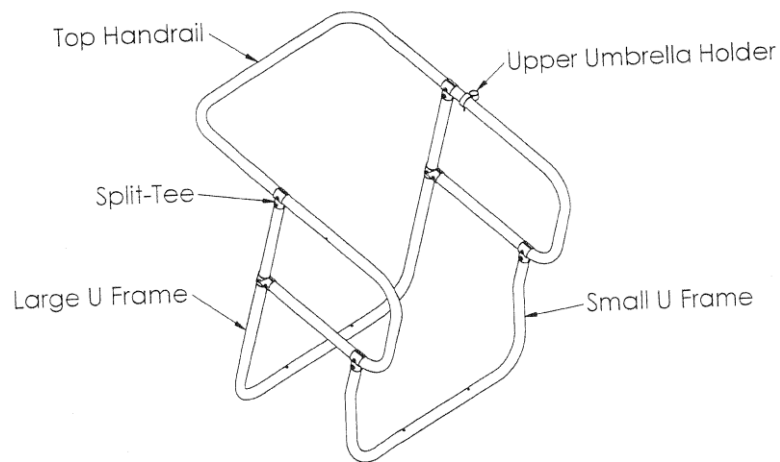

Figure 3
Step 2: Assemble the upper frame assembly as shown in figure 3. Use split-tees, 3/8"x2 3/4" carriage bolts, 3/8" lock washer, 3/8" flat washer and 3/8" acorn nuts. Slide the upper umbrella holder over the right side of the upper handrail before bolting the frame together. Hold the upper umbrella holder in place with one 5/16"x 1/2" Hex head bolt.